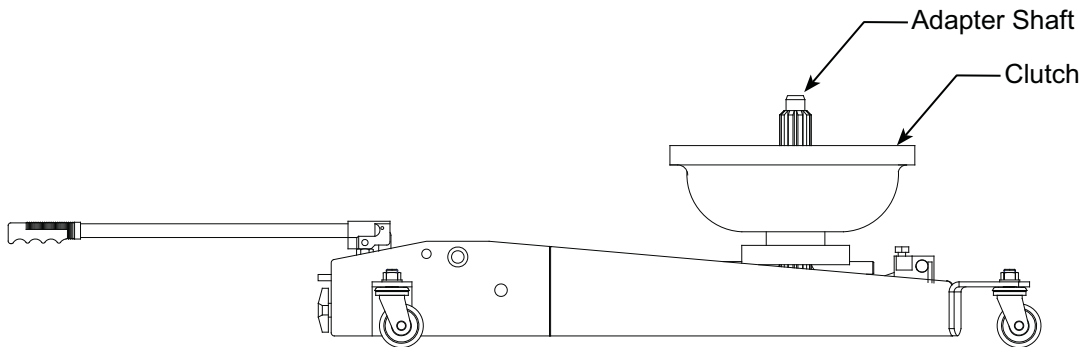

Figure 2 - Illustration of lowest position with Clutch
Be sure the adapter shaft is in the vertical position and the jack is fully lowered before transporting, as shown in Figure 2.
1. To load or unload a clutch from the jack, be sure the adapter shaft is in the vertical position, as shown in Figure 2.